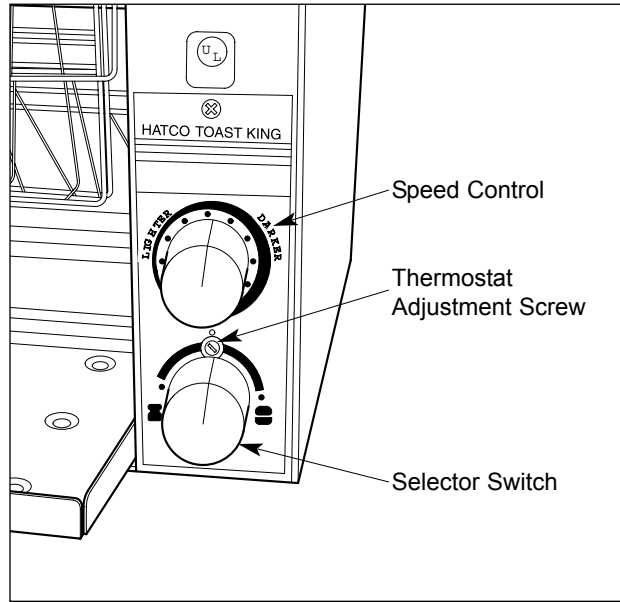

Figure 7. Control Panel
2. Turn the Selector Switch, located on the front panel, to "Toast" or "Buns". See Figure 7.
Using a small screwdriver, turn the adjustment screw (Figure 7) clockwise to increase temperature or counter-clockwise to decrease the temperature.